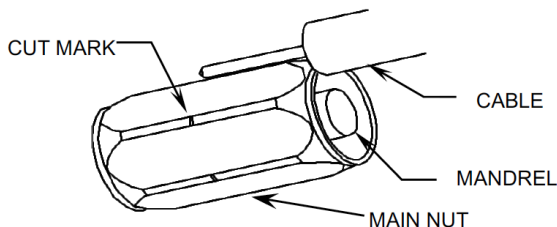
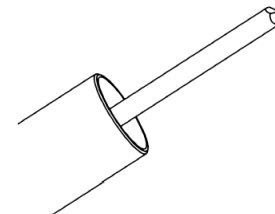

Fig. 4
Fig. 5
4. **Verify cable center conductor length** by using the CUT MARK on the connectors MAIN NUT as shown in Figure 4. Using diagonal cutters, make a cut half way through center conductor then rotate cutters 90° and complete the cut to give a pencil type point as shown in Figure 5.